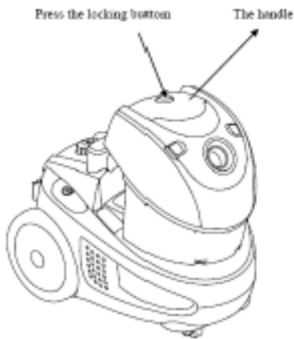

Fig.1
1. Press the locking button and Remove the water container from the appliance, holding it by the handle of the water container (fig.1).